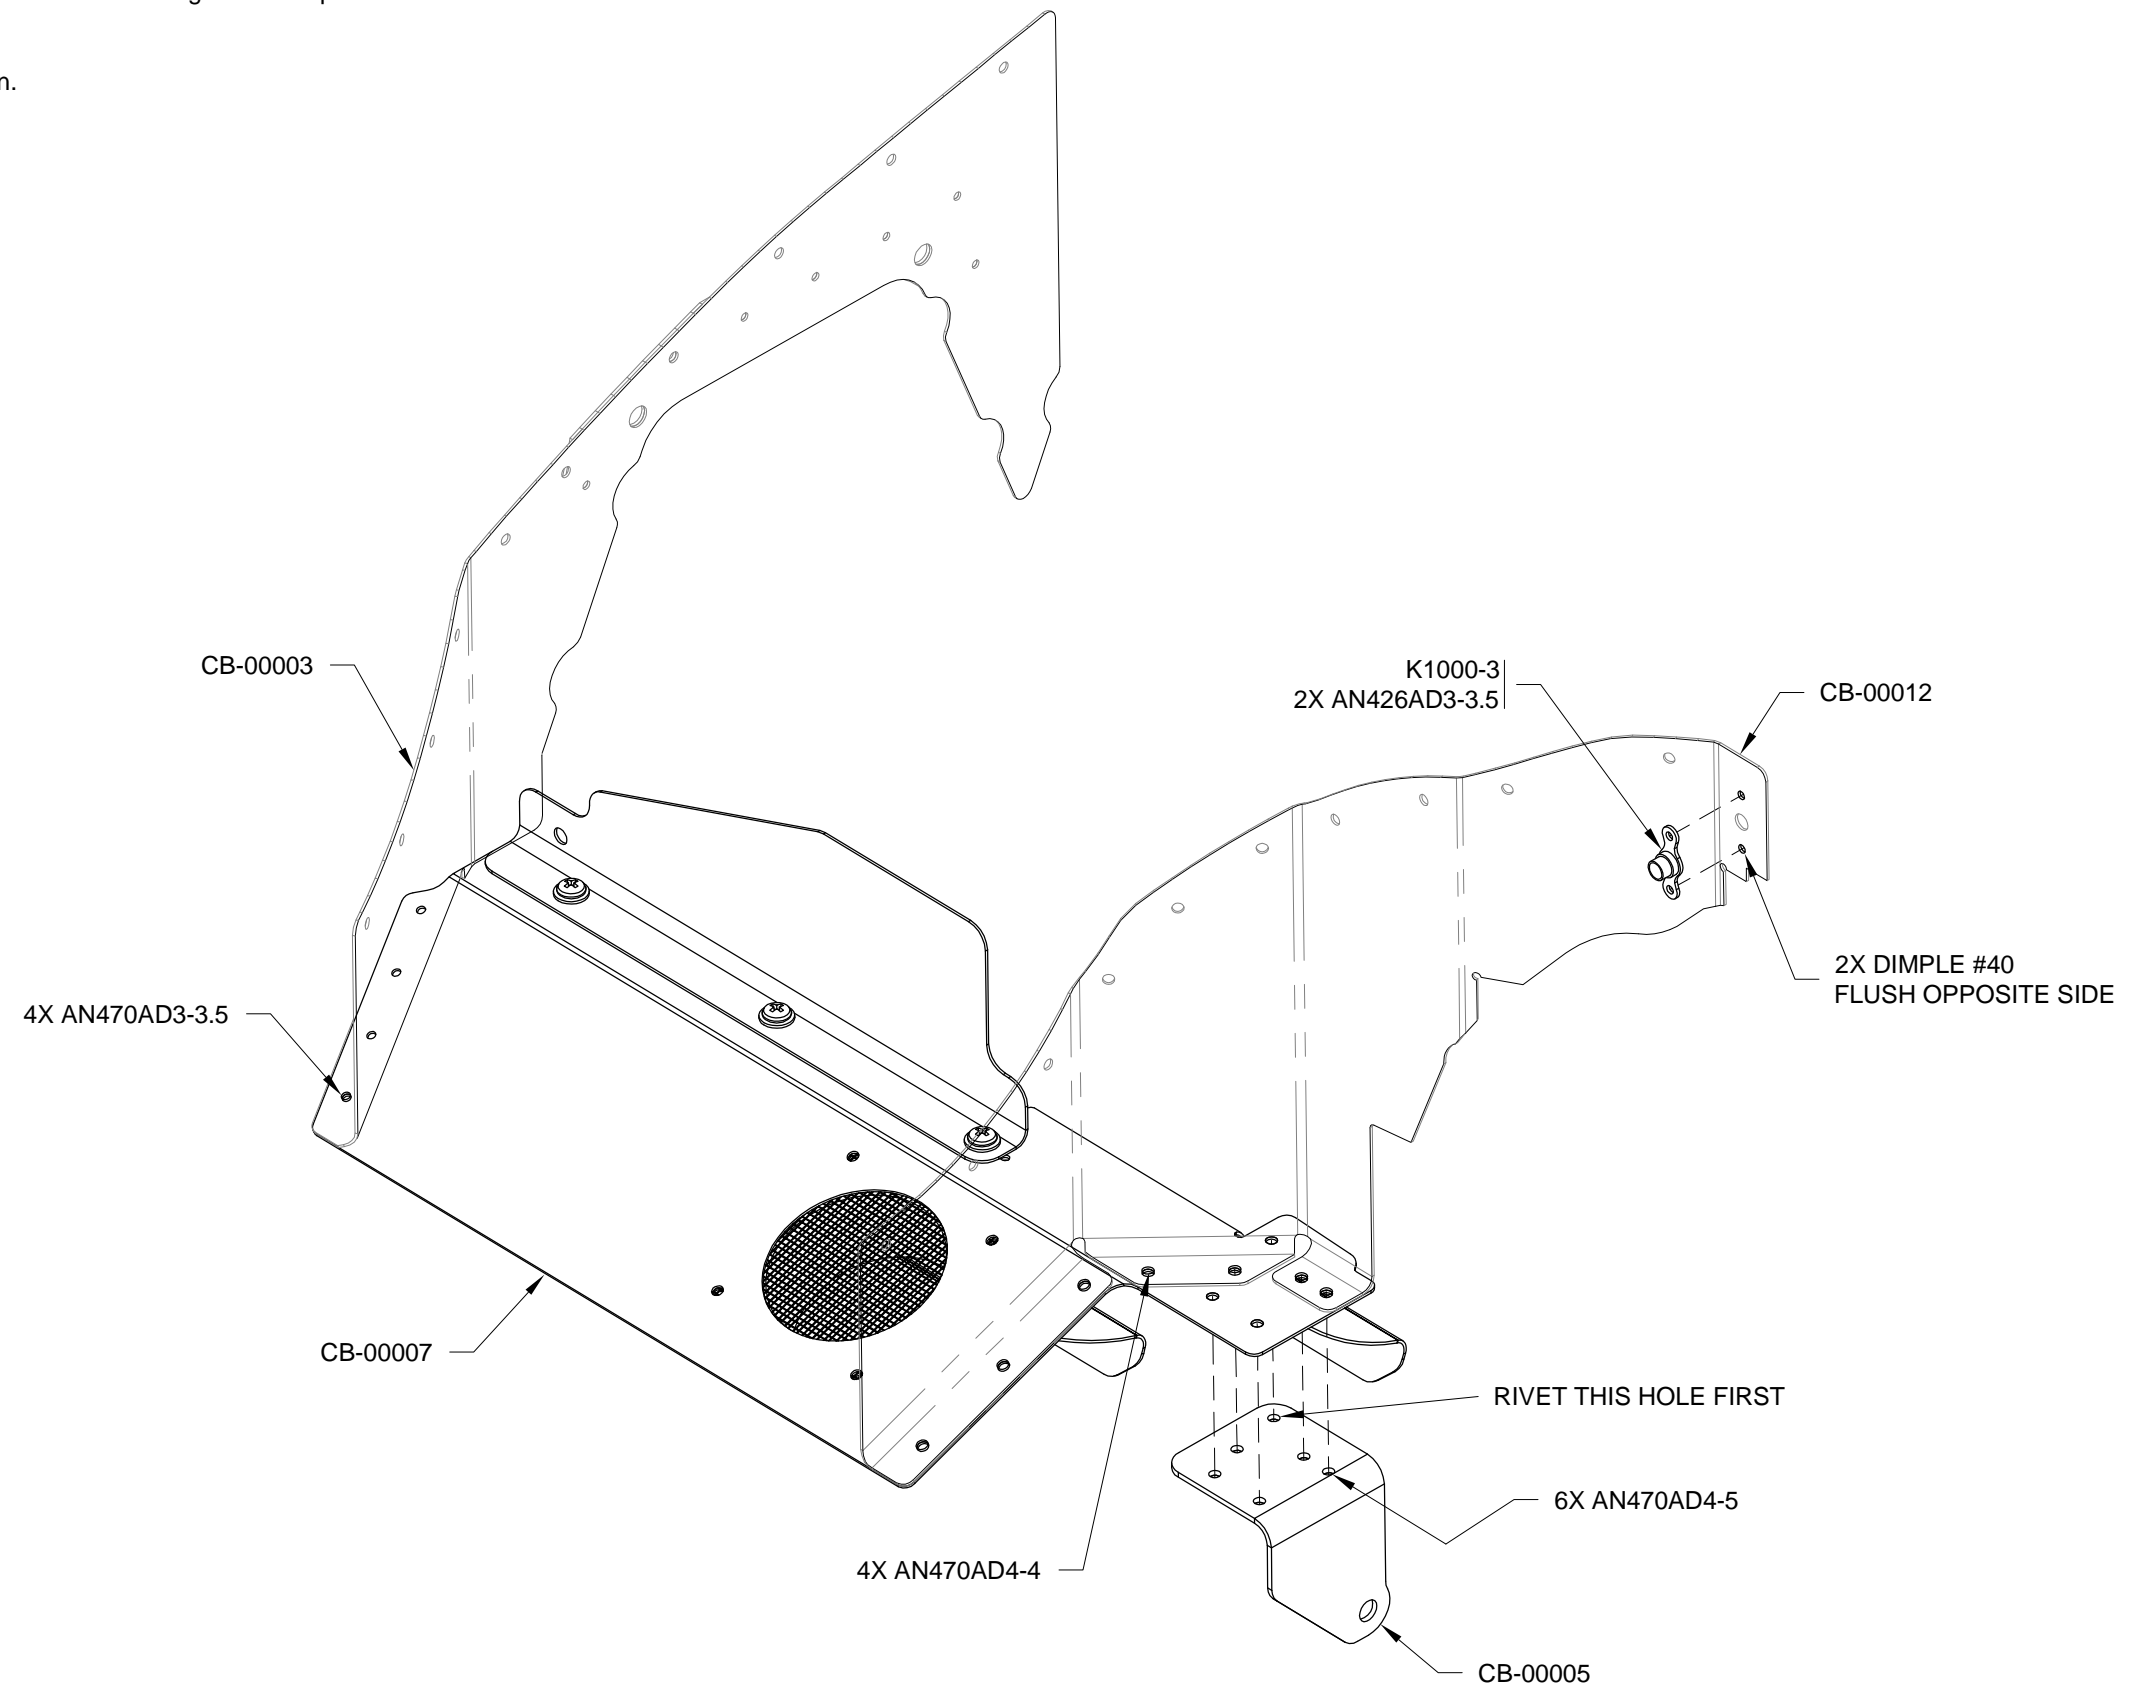

FIGURE 1: RIGHT FORWARD BAFFLE
Step 1: Apply strips of RTV sealant (approximately 1/32 [0.8 mm] thick) to the baffles as shown in Figure 1 and Figure 2. Allow the RTV to fully cure before installing the baffles.